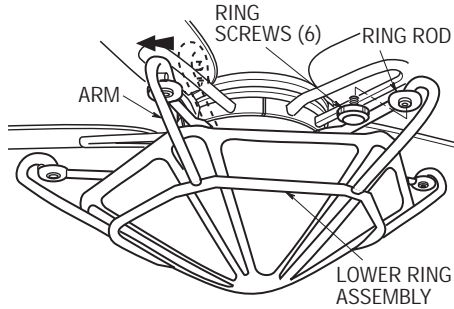

Figure 16
- 9. Grasp the lower ring assembly and raise it up and over the ring rods of the adapter assembly (Figure 16). Position the ring assembly so that the ring assembly arms protrude through the holes at the end of the ring rods. Secure the ring assembly in the ring rods using the six ring screws.